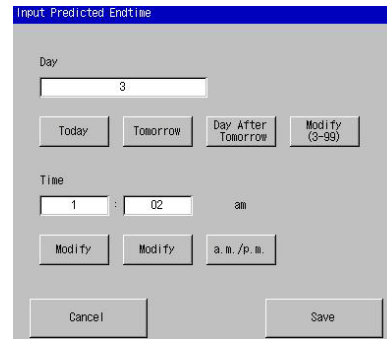

Figure 3-JJJ
- The Predicted End Time Screen displays (Figure 3-JJJ):